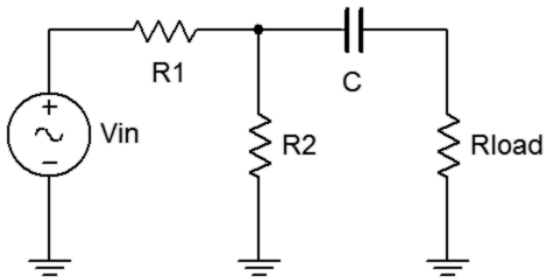

Figure 11.1
- For the circuit of figure 11.1, calculate the voltage across the $1\text{ k}\Omega$ load using $R1=1.5\text{ k}\Omega$, $R2=2.2\text{ k}\Omega$, and $C=470\text{ nF}$, with a 2 V p-p 1 kHz source. Record this value in Table 11.1. Also calculate the expected Thevenin voltage and Thevenin impedance. Record these values in Table 11.2.
- Build the circuit of figure 11.1 using $R1=1.5\text{ k}\Omega$, $R2=2.2\text{ k}\Omega$, $R_{\text{load}}=1\text{ k}\Omega$ and $C=470\text{ nF}$. Set the generator to a 1 kHz sine wave at 2 V p-p . Make sure that the *Bandwidth Limit* of the oscilloscope is engaged. This will reduce the signal noise and make for more accurate readings. Measure the load voltage and record in Table 11.1 as V_{Load} Original.